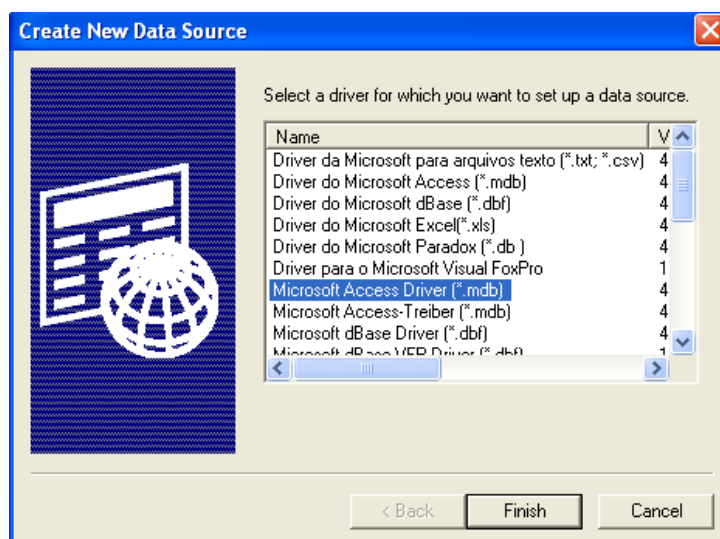

Figure 6-3. Selection on database driver
3. Figure 6-3 will show the next dialog box to select database driver. Select Microsoft Access Driver then click on “FINISH” button.